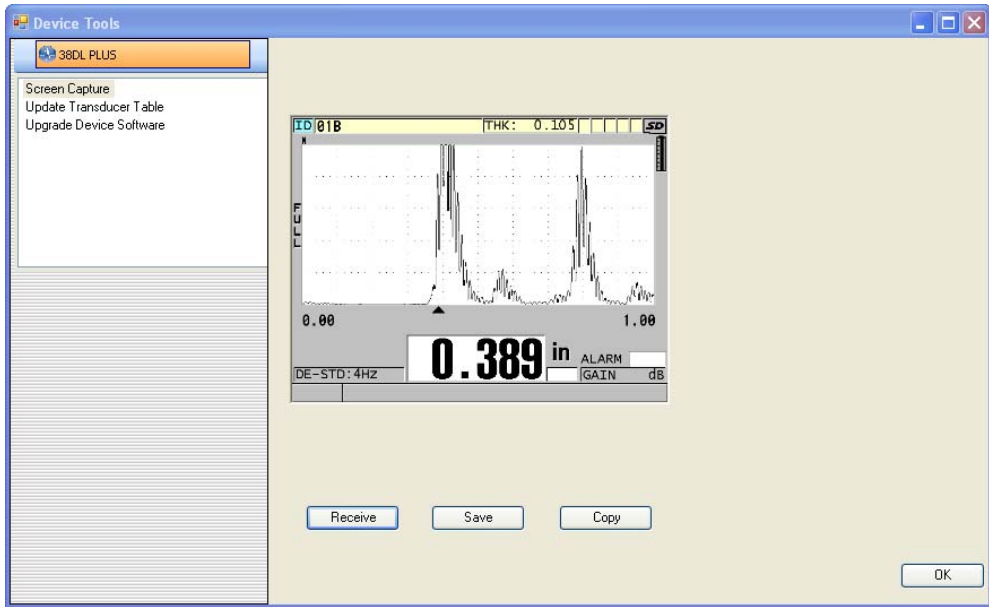

Figure 14-8 The Device Tools dialog box with a screen capture
- b) In the **Device Tools** dialog box (see Figure 14-8 on page 257), select **Screen Capture**, and then click **Receive**.